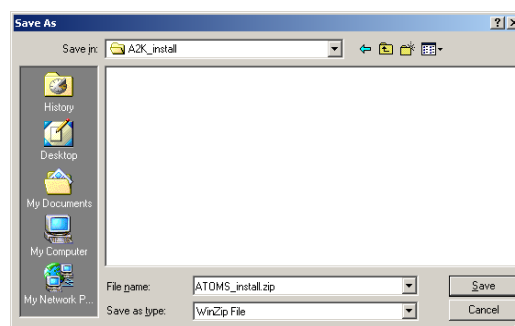

Figure 3-3. Save As Dialogue Box
- 5) When the **Save As** dialogue box appears, select the directories such that the *ATOMS_install.exe* file is to be saved in the temporary *A2K_install* directory created earlier. Note in Figure 3-3, the Save in: text field contains the name of the temporary directory.